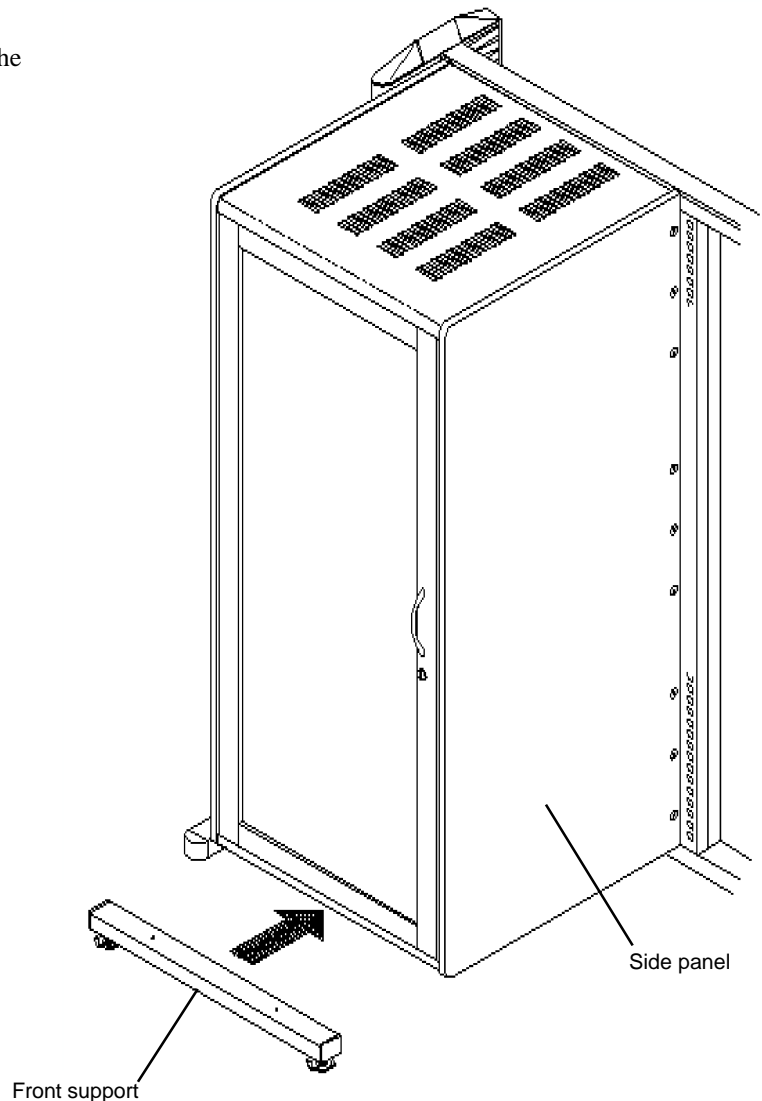

Figure 1
1. Position the Front Support in front of the Rack Mount Module, centering it side to side, and slide it under the front of the Side Panels. See **Figure 1**.